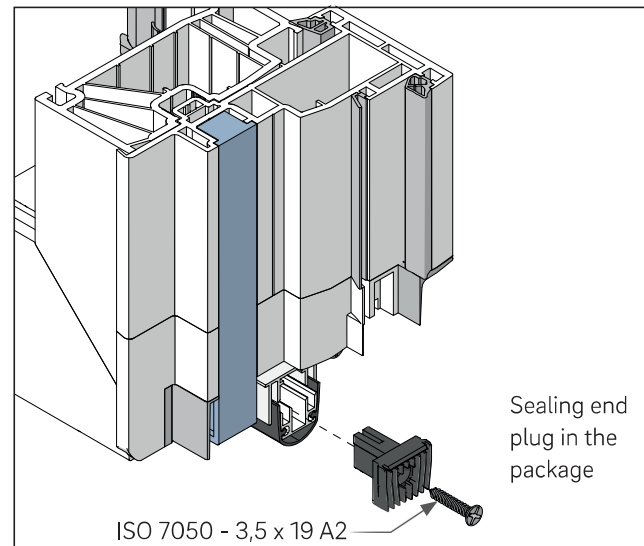
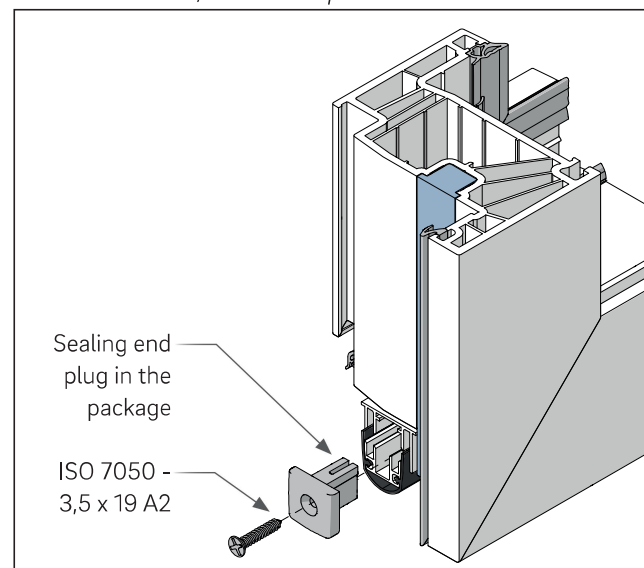

Fig. 12.1: Installation of the end cap for the floor seal – two-sash window, shootbolt-operated
Fig. 12.2: Installation of the end cap for the floor seal – moving sash
- First install the sealing end plugs enclosed with the weather rail mullion end caps to the respective drop-down seal (fig. 12.1 and fig. 12.2). Insert the sealing end plug into the drop-down seal as far as it will go and secure it with the screw provided.